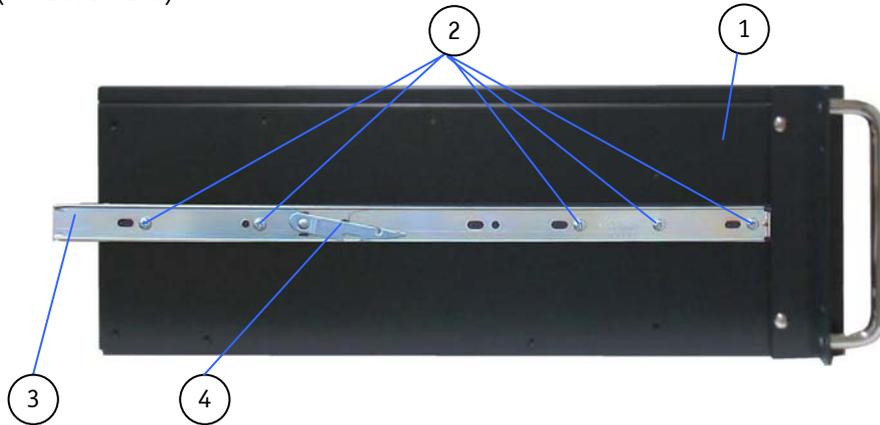

Fig. 49: Attaching the inner part to a KISS 4U V2 platform
**Legend for:** Fig. 49, Fig. 50 and Fig. 51: